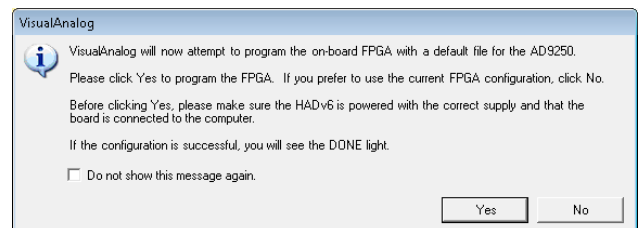

Figure 3. VisualAnalog FPGA Programming Pop-Up Window
9. Select the template that corresponds to the type of testing that needs to be performed. A VisualAnalog pop-up window appears as seen in Figure 3. Select **Yes** to allow the FPGA to be programmed for the AD9250 capture.